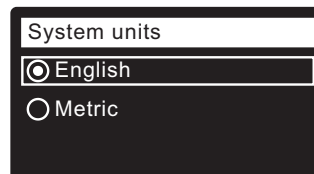

FIG. 19
17. **SYSTEM UNITS** If the desired system already has a dot next to it (See Figure 19), go to Step 18. Otherwise, press the DOWN (▼) or UP (▲) buttons to scroll to the desired system, then press the SELECT (O) button to choose it.
18. Press the SELECT (O) button.